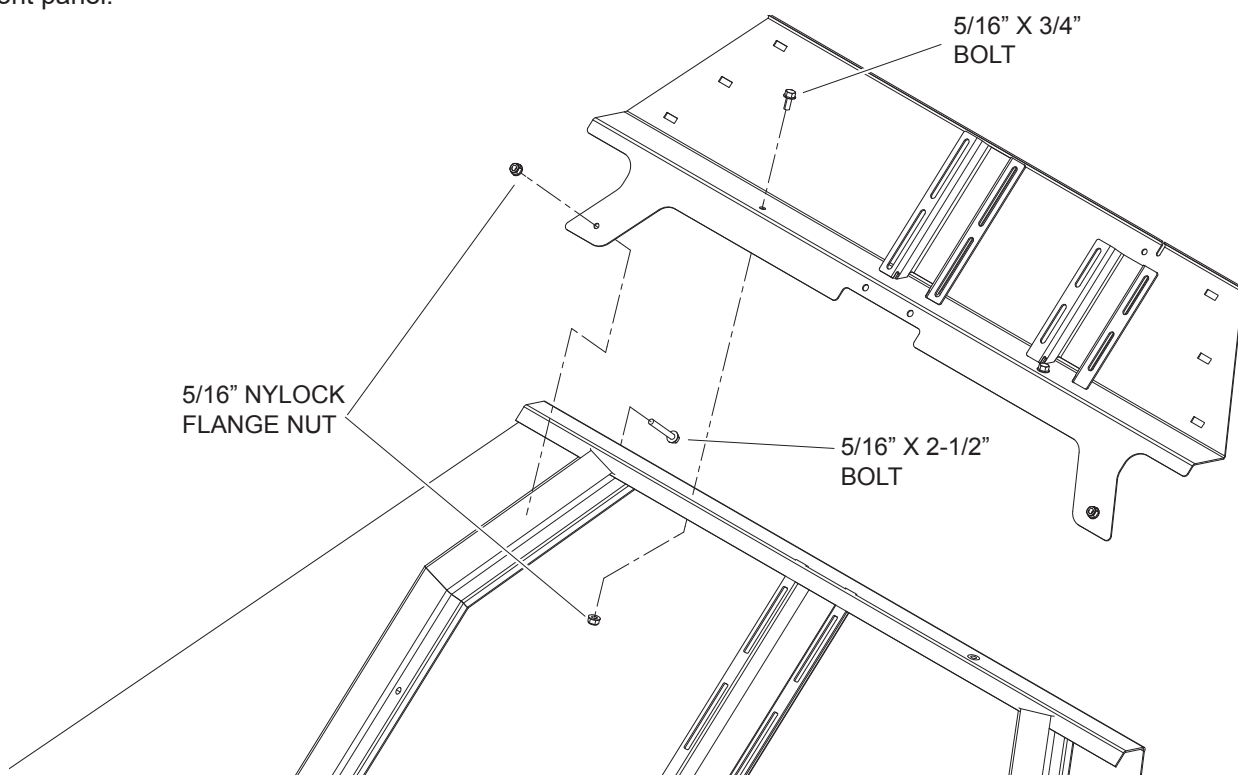

Figure 8: FRONT PANEL EXTENSION
3. Start by installing the canvas to the front panel. Install the canvas on the front panel mount plates using three 5/16" x 3/4" carriage bolts, flange nuts and the front sandwich strip. The lower hole on the front will attach using the 5/16" x 2-1/2" bolt securing the front panel assembled in Figure 8.